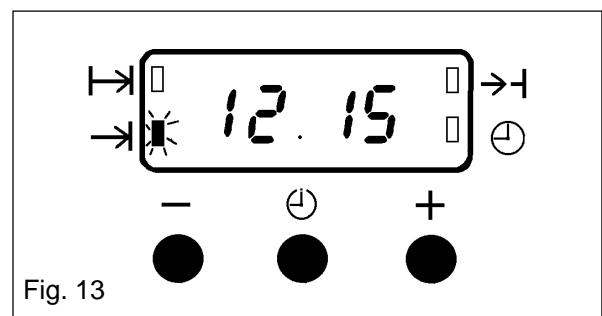

Fig. 13
- i) To stop the sound press any of the three buttons, as Fig. 13.